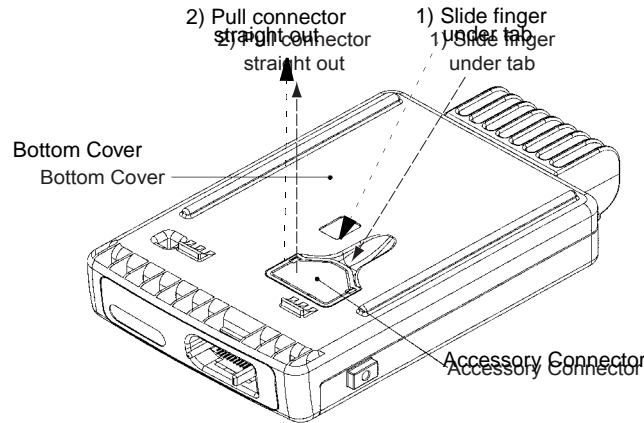

Figure 5-10. Removing the Accessory Connector
3. Remove the Accessory Connector by sliding a finger into the recess on the bottom cover and pushing up on the connector tab to loosen the connection. Lift the connector out of the recess. See Figure 5-10.